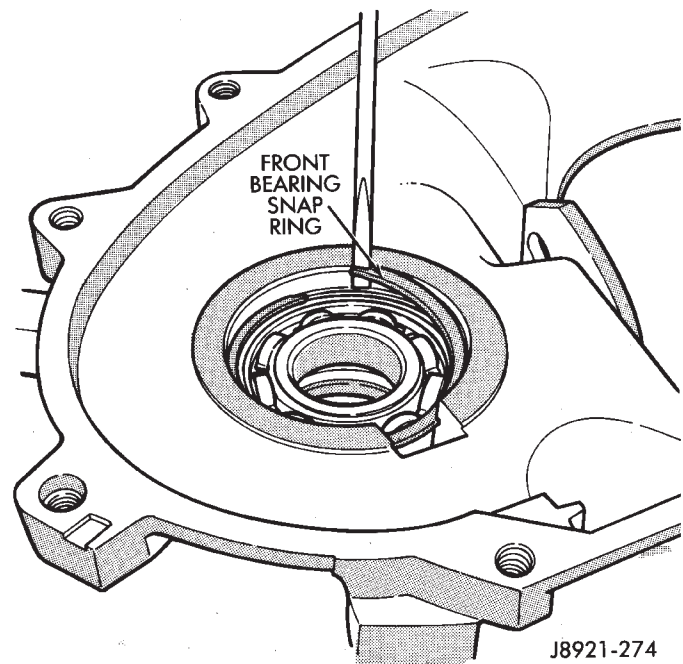

Fig. 36 Front Output Shaft Front Bearing Snap Ring Removal
(2) Remove snap ring that retains front output shaft front bearing in case (Fig. 36). Then remove bearing. Use hammer handle, or hammer and brass punch to tap bearing out of case.
(4) Install front bearing snap ring (Fig. 36).
(5) Install new front output shaft oil seal as follows: